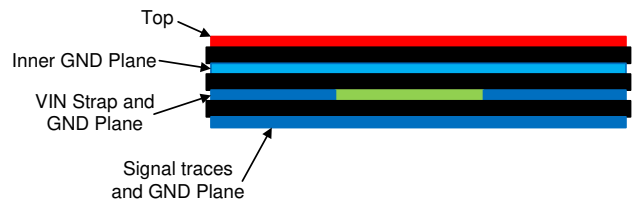

Figure 11-2. Example Layout for VQFN Package
The PCB layout of any DC/DC converter is critical to the optimal performance of the design. Bad PCB layout can disrupt the operation of an otherwise good schematic design. Even if the converter regulates correctly, bad PCB layout can mean the difference between a robust design and one that cannot be mass produced. Furthermore, the EMI performance of the regulator is dependent on the PCB layout, to a great extent. In a buck converter, the most critical PCB feature is the loop formed by the input capacitor or input capacitors, and power ground, as shown in Figure 11-1. This loop carries large transient currents that can cause large transient voltages when reacting with the trace inductance. These unwanted transient voltages will disrupt the proper operation of the converter. Because of this, the traces in this loop must be wide and short, and the loop area as small as possible to reduce the parasitic inductance. Figure 11-2 shows a recommended layout for the critical components of the LMR336x0AP-Q1.
1. **Place the input capacitor or capacitors as close as possible to the VIN and GND terminals.** The VIN and GND pins are adjacent, simplifying the input capacitor placement. With the VQFN package there are two VIN/PGND pairs on either side of the package. This provides for a symmetrical layout and helps minimize switching noise and EMI generation. A wide VIN plane must be used on a lower layer to connect both of the VIN pairs together to the input supply; see Figure 11-2.